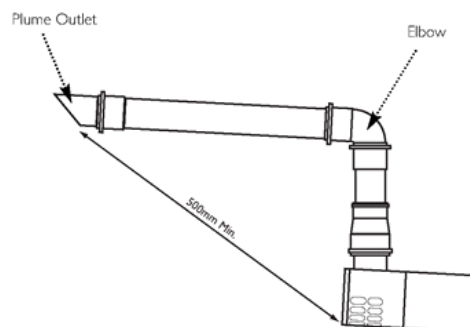
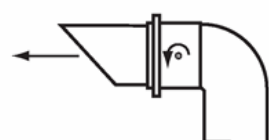

Fig. 21n
Fig. 21p
16. It is also possible to separate the plume outlet from the 93° elbow to allow the flue to be installed as shown in Fig. 21n.
17. To do this, first slacken the two screws retaining the plume outlet to the elbow, and remove the outlet (Fig. 21p). The elbow can now be used to connect the vertical to horizontal 60Ø exhaust (Fig. 21n). Retighten the screws in the elbow.